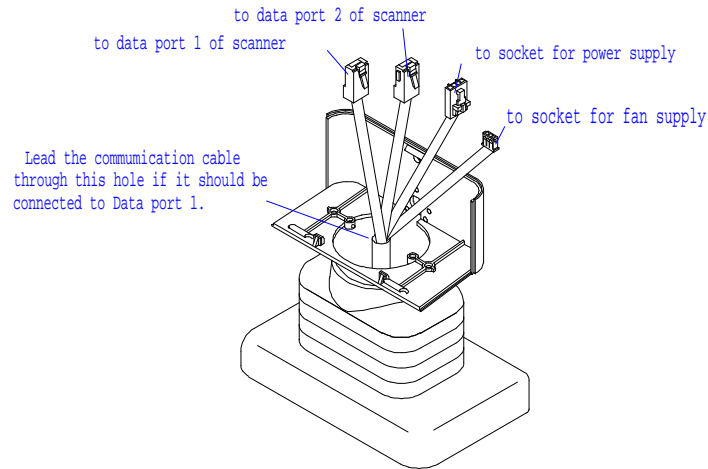

Figure 2.6
2. Lead the communication cable with the 8 pin modular jack and the power supply cable from the bottom through the stand. Refer to figure 2.6 to locate the hole through which the cable should be led.